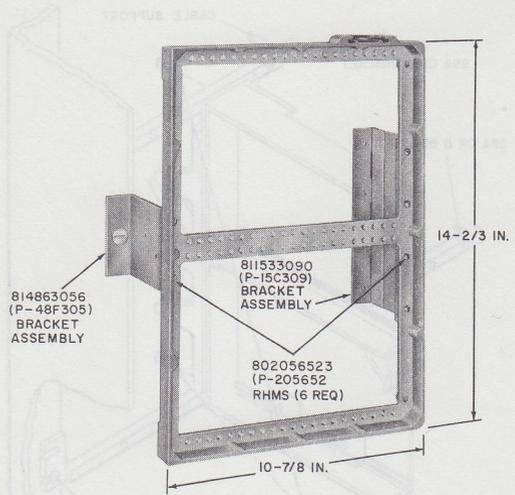

Fig. 9—31B Apparatus Mounting
3.06 The 31B apparatus mounting (Fig. 9) is a die-cast aluminum hinged framework comparable to the 31A apparatus mounting. Primarily used to mount panel-type 200-series KTUs, the 31B apparatus mounting is designed for use with the 177A backboard and can be arranged to open either to left or right. The unit can be protected with a 116A cover. The 814863056 (P-48F305) and 811533090 (P-15C309) bracket assemblies and associated fasteners must be ordered separately. (The 814863056 contains a Simmons fastener oval head stud No. 5.)